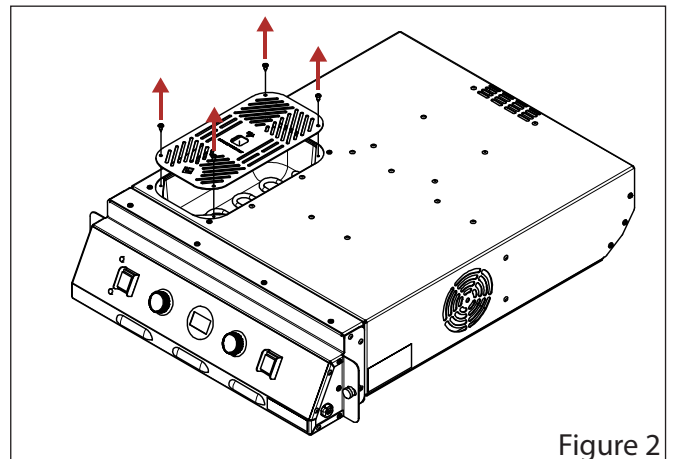

Figure 2
3. The water pan and immersible element can become coated with mineral deposits that will adversely affect their operation. Distilled water lessens this occurrence. Begin cleaning the water pan by removing the (4) water pan cover screws with a phillips-head screwdriver, then remove the protective water pan cover (Figure 2). De-scale or de-lime with equal amounts of white vinegar and baking soda and a medium to soft bristle brush to scrub the surfaces. Rinse thoroughly to eliminate transfer of cleaning odors to food. A weekly cleaning is recommended.